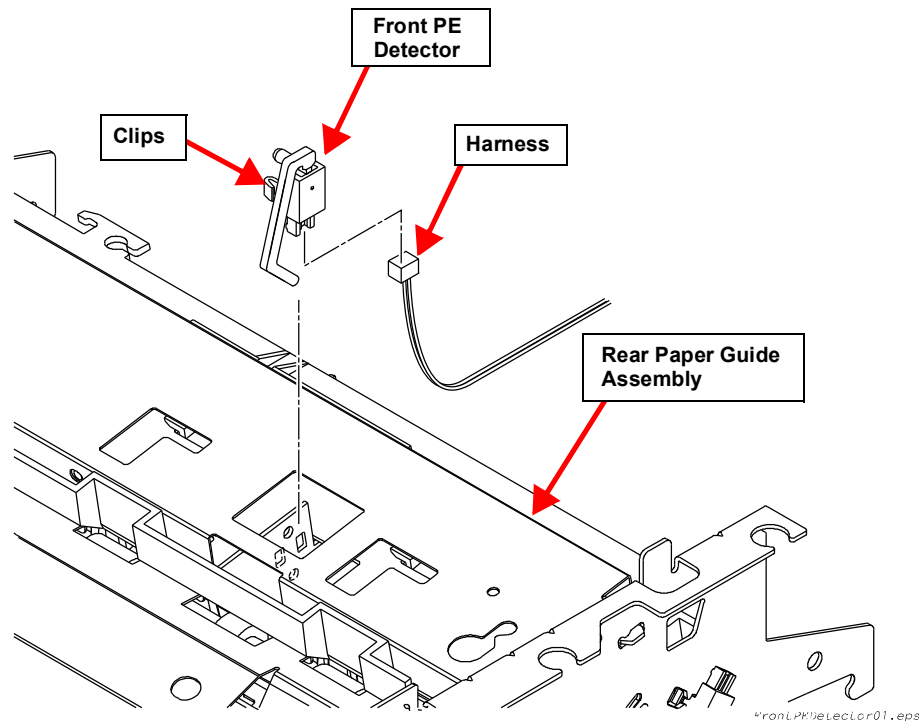

Figure 4-24. Front PE Detector Removal
2. Release the 2 clips attaching the front PE detector to the Rear Paper Guide Assembly, and remove the detector. (See Figure 4-24)